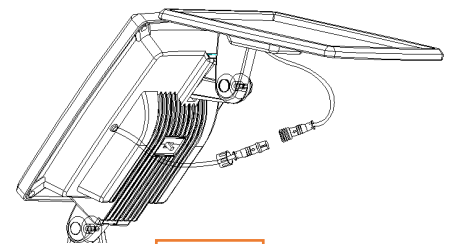

Fig. 8
- c. Insert Part B into the groove at the top of Part G **(Fig. 8)** with the tapered end of the wedge going into the lamp. **NOTE:** Push the part into the groove firmly so it does not easily slide out.
- e. Connect the solar panel and the lamp head cords together and secure using the screw connector. **(Fig. 8)**
- c. Insert Part C into the groove at the top of Part G with the tapered end of the wedge going into the panel (**Fig. 8**). **NOTE:** Push the part into the groove firmly so it does not easily slide out.